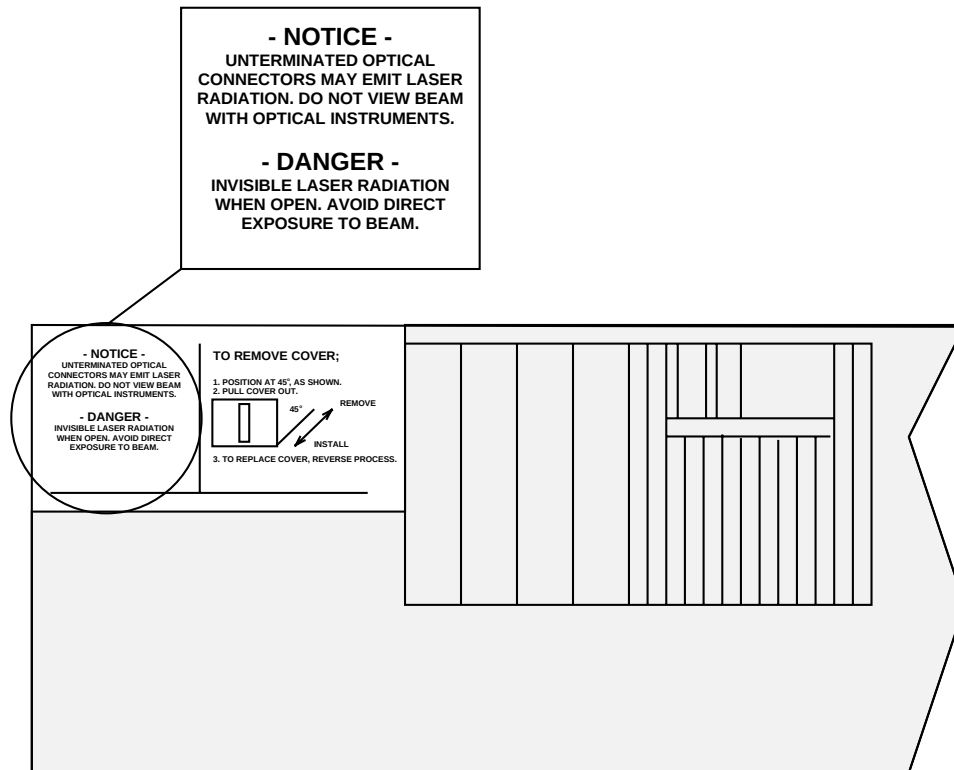

Figure 1. Safety Label Position on DDM-2000 OC-12 Shelf
3. Since viewing lightwave emission directly with an optical instrument such as an eye loupe greatly increases the risk of eye damage, an appropriate safety label (Figure 1) must appear in plain view on the front of the main frame or lightguide termination/interconnection equipment.